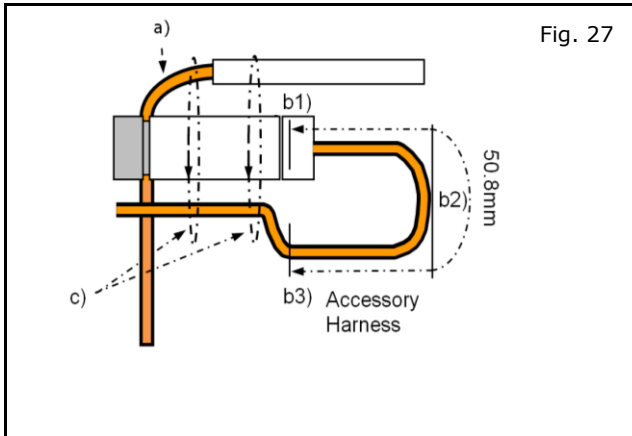

Fig. 27
- 28) Forming strain relief loop - required (Fig. 27).